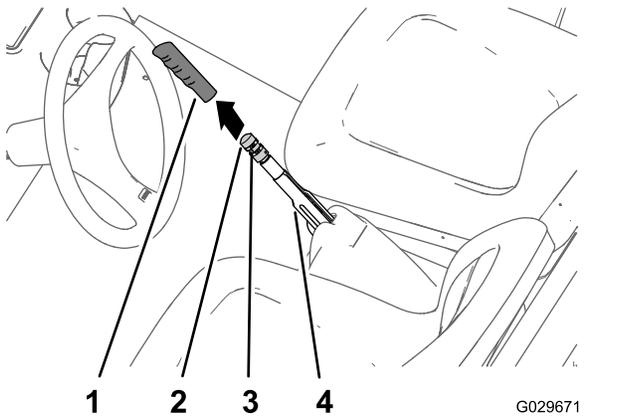

Figure 67
1. Remove the handgrip from the parking-brake lever (Figure 67).
2. Loosen the set screw securing the brake-adjustment knob to the parking-brake lever (Figure 67).
3. Rotate the brake-adjustment knob until you reach a force of 133 to 156 N (30 to 35 lbf) to engage the parking-brake lever (Figure 67).
4. Tighten the set screw and install the hand grip (Figure 67).
2. Loosen the set screw (Figure 67) securing the brake-adjustment knob to the parking-brake lever, disengage the parking brake, and loosen the brake-adjustment knob.
5. Rotate the brake-adjustment knob (Figure 67) until a force of 133 to 156 N (30 to 35 lbf) is required to engage the parking-brake lever.
- C. Rotate the brake-adjustment knob (Figure 67) until a force of 133 to 156 N (30 to 35 lbf) is required to engage the parking-brake lever.
- Tighten the set screw and install the handgrip (Figure 67).